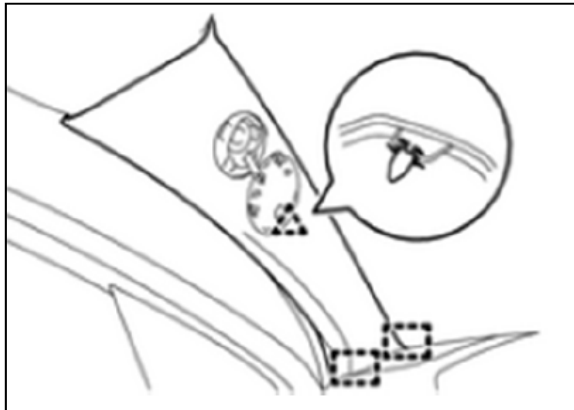

Figure 5
5. Disengage the clip and 2 guides to remove the front pillar garnish LH. See Figure 5.